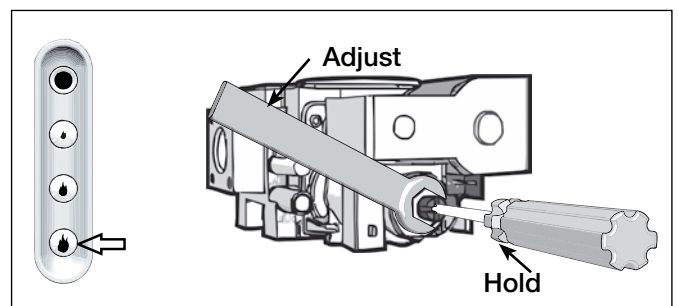

FIG 20
- Switch the control buttons to 'High flame' position. Wait for heater to switch to 'BOOST' setting (time delay on startup). Retain screwdriver in position and using a spanner adjust the outer nut on the control to give a high pressure reading (refer to spec table on page 8). **(Turn clockwise to increase pressure and anticlockwise to decrease pressure)**. Refer **FIG 20**.